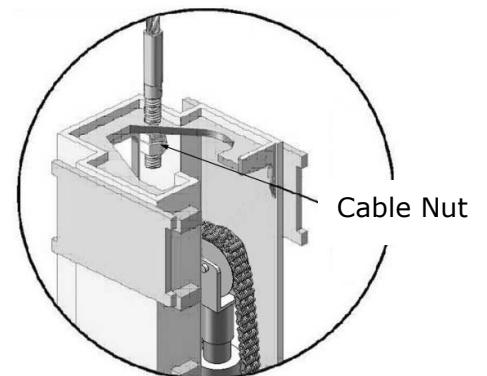

Fig. 36
1. Adjust synchronous cable (See Fig.36)